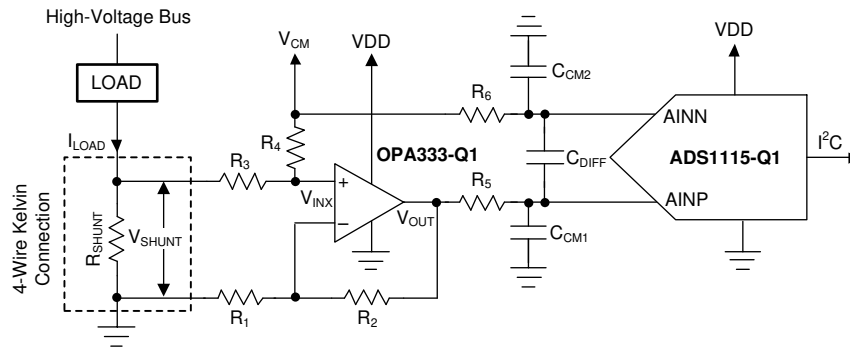

Figure 9-6. Low-Side Current Shunt Monitoring
Shunt-based, current-measurement solutions are widely used to monitor load currents. Low-side, current-shunt measurements are independent of the bus voltage because the shunt common-mode voltage is near ground. Figure 9-6 shows an example circuit for a bidirectional, low-side, current-shunt measurement system. The load current is determined by measuring the voltage across the shunt resistor that is amplified and level-shifted by a low-drift operational amplifier, OPA333-Q1. The OPA333-Q1 output voltage is digitized with ADS1115-Q1 and sent to the microcontroller using the I²C interface. This circuit is capable of measuring bidirectional currents flowing through the shunt resistor with great accuracy and precision.
1. To level-shift the ground-referenced signal to allow bidirectional current measurements while running off a unipolar supply. The voltage across the shunt resistor, V_{SHUNT}, is level-shifted by a common-mode voltage, V_{CM}, as shown in Figure 9-6. The level-shifted voltage, V_{INX}, at the noninverting input is given by Equation 5.
A shunt resistor (R_{SHUNT}) is an accurate resistance inserted in series with the load as shown in Figure 9-6. If the absolute voltage drop across the shunt, $|V_{SHUNT}|$, is a larger percentage of the bus voltage, the voltage drop can reduce the overall efficiency and system performance. If $|V_{SHUNT}|$ is too low, measuring the small voltage drop requires careful design attention and proper selection of the ADC, operation amplifier, and precision resistors. Make sure that the absolute voltage at the shunt terminals does not result in violation of the input common-mode voltage range requirements of the operational amplifier. The power dissipation on the shunt resistor increases the temperature because of the current flowing through the resistor. To minimize the measurement errors resulting from variation in temperature, select a low-drift shunt resistor. To minimize the measurement gain error, select a shunt resistor with low tolerance value. To remove the errors caused by stray ground resistance, use a four-wire Kelvin-connected shunt resistor, as shown in Figure 9-6.